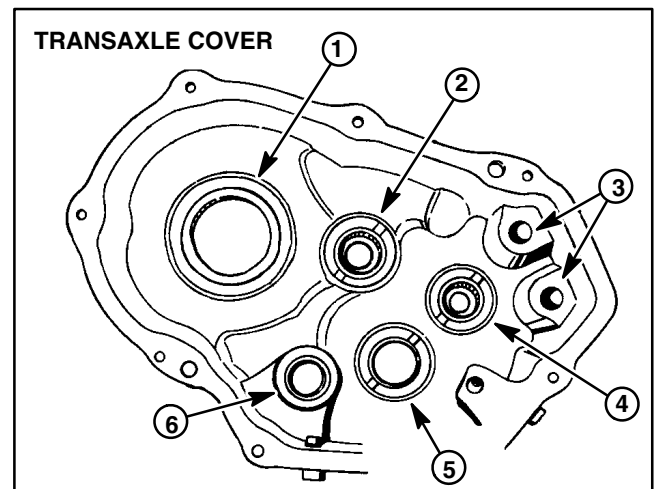
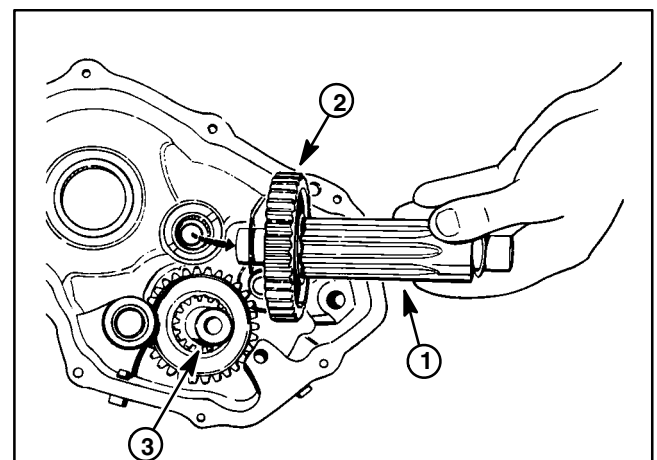
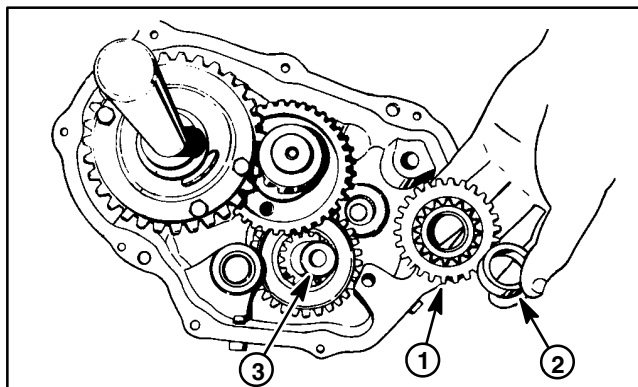

Figure 18
Figure 20
Figure 21
2. Use a press and appropriate installation tool to press all removed bearings into transaxle cover and case (Figs. 18 and 19).
A. If installing needle bearings for low gear shaft (item 62), press bearings into housing .010" (.254 mm) below the thrust surface.
B. If installing needle bearing into pinion shaft (item 25), press bearing into shaft until it is recessed .010" (.254 mm).
3. Slide spur gear (item 40) (flat side of gear toward center of transaxle) and thrust washer (item 74) on input shaft (item 39). Install input shaft into case. Use a press or soft-faced hammer to fully seat the shaft into the case. If input shaft is not fully seated, transaxle binding will occur.
4. Center thrust washer (item 73) on the cover brake shaft needle bearing. Slide idler gear (item 35) onto brake shaft (item 23) with the chamfer side of the gear away from the cover. Install brake shaft assembly into cover (Fig. 20).
5. Center thrust washer (item 41) on the output shaft bearing. Slide output gear (item 43) onto output pinion (item 44). Install output shaft assembly into cover. Place thrust washer (item 41) on output pinion.
7. Install the two gear cluster (item 27) and spacer (item 37) onto brake shaft (Fig. 21).
8. Install thrust washer (item 61), low gear shaft and pinion (item 62) and spur gear (item 67) into cover. Make sure that the small gear meshes with the larger gear of the two gear cluster.